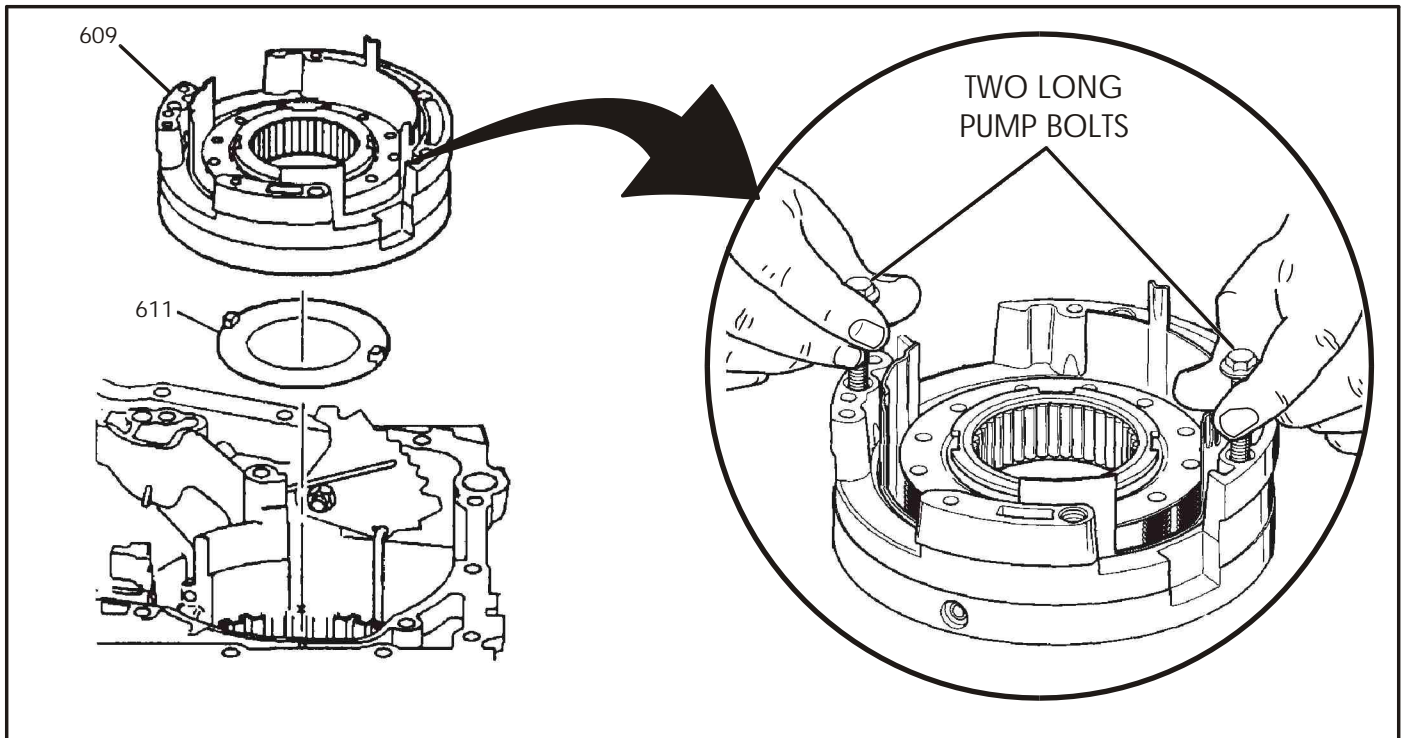

Figure 170
62. Ensure that the thrust washer (611) is still on the bottom of the driven sprocket support and retained with petrolatum (See Figure 170).
63. Install the driven sprocket support using the two long pump bolts as tools or handles to rotate and install (See Figure 170).